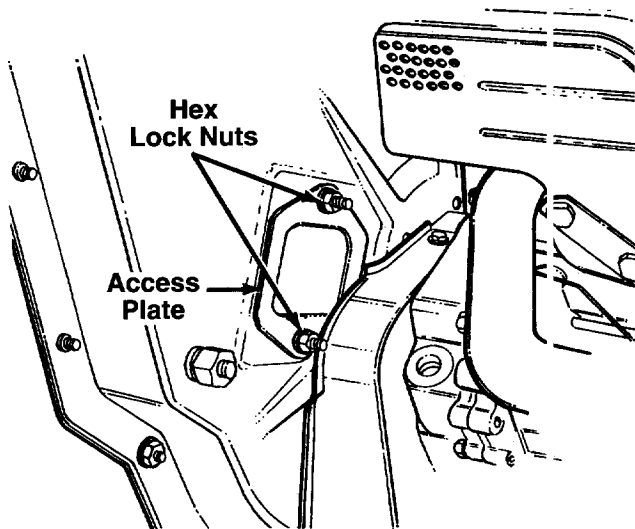

FIGURE 22.
- Remove the access plate by removing two hex lock nuts. See figure 22.